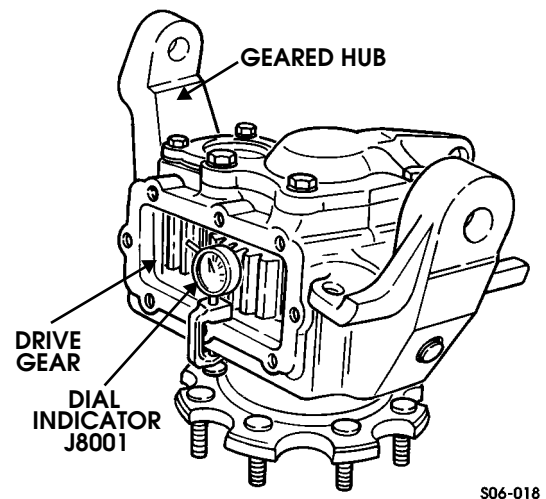

Figure 9-22: Dial Indicator Positioning
4. Mount dial indicator J8001 on geared hub and index indicator to register from one drive gear tooth. Move drive gear back and forth while holding driven gear stationary to read backlash (Figure 9-22).